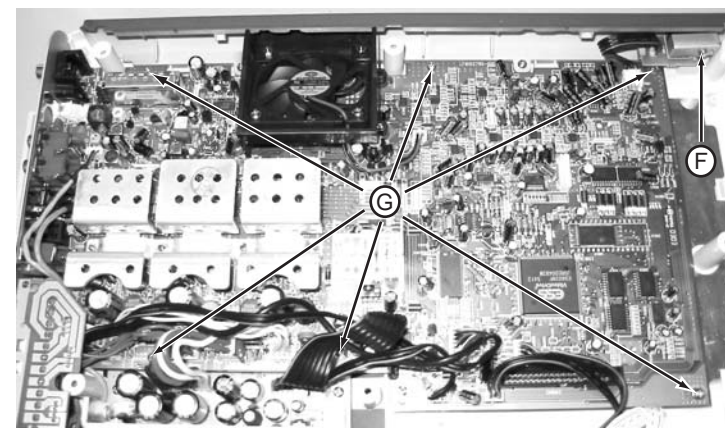

Figure 9
- 1) Loosen 6 screws "G" on the top of main board as shown in figure 9.